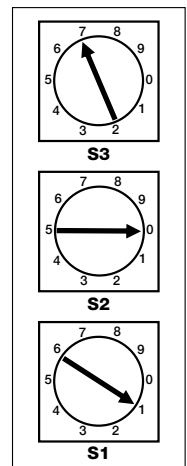

FIGURE 4a
2. If the unit is a DMX style unit, it will have rotary switches on the PCB on the side towards the power supply. Using a small screwdriver, set the following address on the switches (See FIGURE 4a).